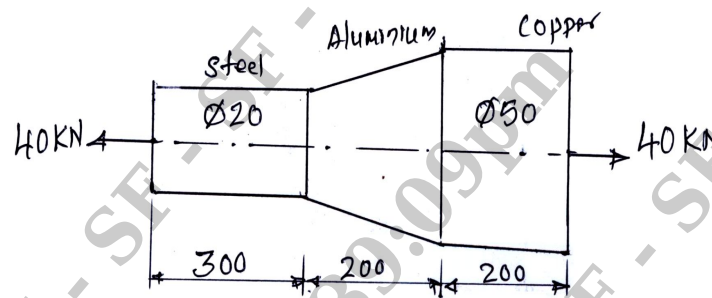

Fig.Q.1(b)
- b. A stepped bar is subjected to an axial load is shown in Fig.Q.1(b). Determine the change in length of the bar. Take  $E = 200\text{GPa}$  for steel,  $E = 70\text{GPa}$  for Aluminium and  $E = 100\text{GPa}$  for copper. All dimensions are in mm. (08 Marks)